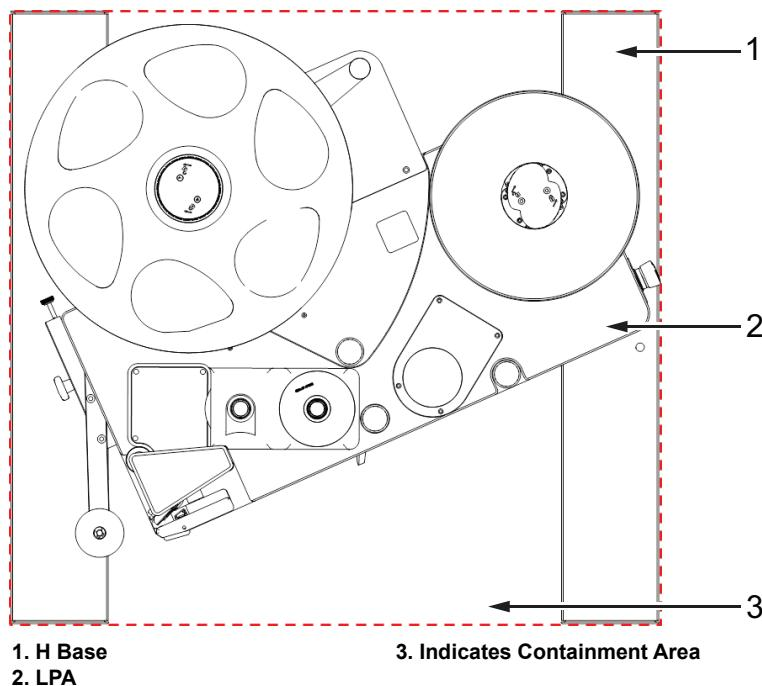

Figure 4-11: LPA Contained Within H Base Footprint
- 15 Place the LPA stand bars along with the LPA to the mounting fixture ensuring that the LPA is within the correct footprint as shown in Figure 4-11 on page 4-10. Secure it by tightening the M8 screws (item 3, Figure 4-12 on page 4-11).